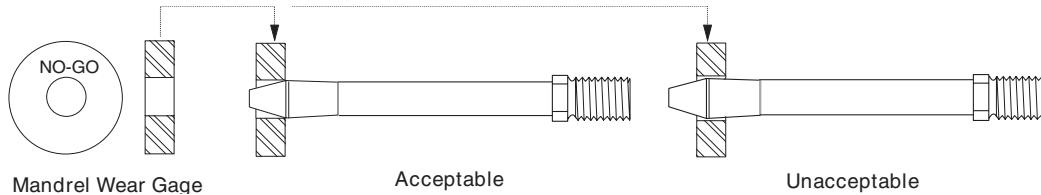

Figure 3-04 — Checking a Mandrel with the Mandrel Wear Gage
- 3.8 **Mandrel Wear Gage** - The mandrel wear gage is used to check the mandrel major diameter for excessive wear prior to the coldworking operation. Failure to check the mandrel could result in holes not being coldworked to the correct expansion level. Ref. Fig. 3-04.